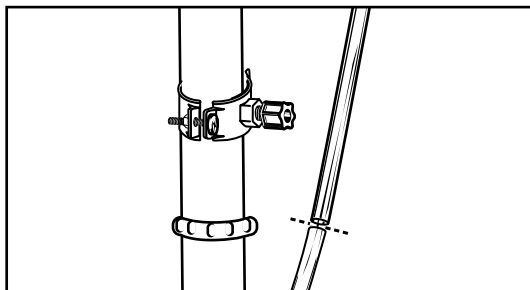

Figure 15
1. Align the white 3/8-inch tubing from the faucet with the compression nut on the drain clamp. Create as straight a path as possible with the tubing. Cut the tubing squarely below the nut and remove the internal and external burrs (Figure 15).